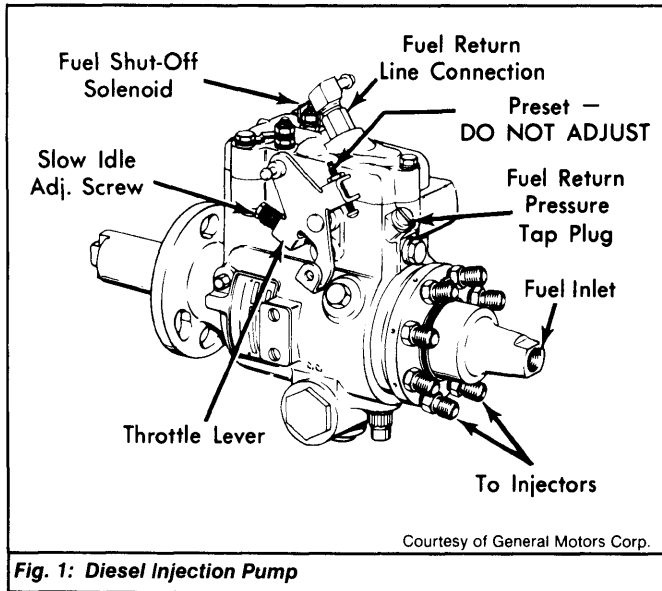

Fig. 1: Diesel Injection Pump
A mechanical high pressure rotary pump, gear driven by the camshaft, injects a precisely metered amount of fuel to each cylinder at the proper time. The pump is mounted on top of the engine and provides necessary timing advance under all operating conditions. See Fig. 1.
The Roosa-Master injection pump is mounted on top of engine, beneath the air crossover. This pump is cam driven and delivers fuel to the injectors at 1800-2000 psi. See Fig. 1.
- 1) Remove air crossover assembly. Install Screened Covers (J-26996-2) over openings in intake manifold. Remove pressure tap plug from injection pump. See Fig. 1.